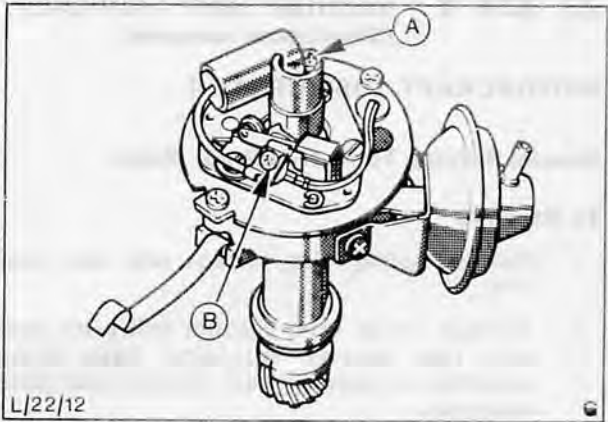

Fig. 49. A – Condenser retaining screw
- 21. Reconnect condenser and LT leads, Fig. 49.